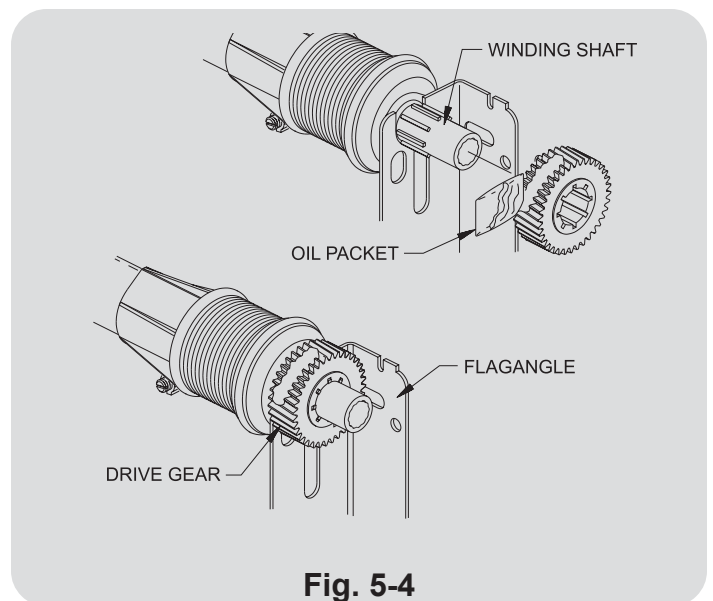
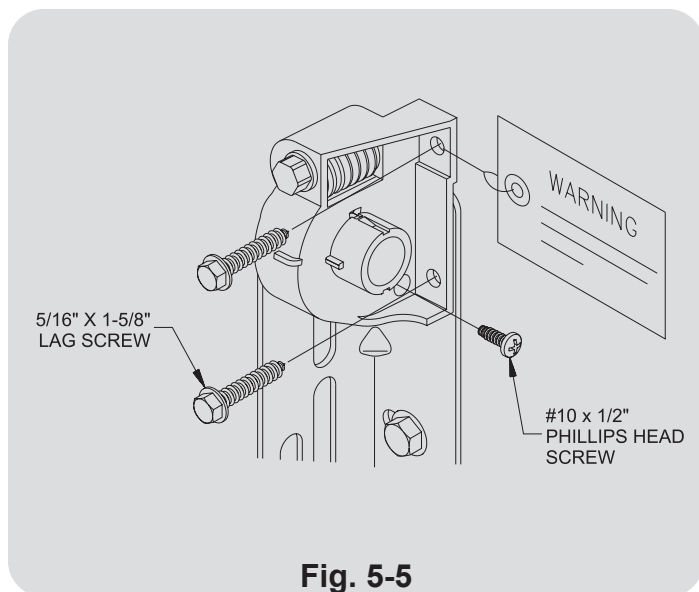

Fig. 5-4
Fig. 5-5
Apply lubricant to the entire circumference of the drive gear. Align the splines of the drive gear with the right hand winding shaft and press the gear on until seated against the flagangle (Fig 5-4). Slide the right hand end bracket over the drive gear and fasten to the flagangle using a #10 x 1/2" phillips head screw. Attach the end bracket to the jamb using (2) 5/16" x 1-5/8" lag screws (Fig. 5-5). Repeat for the left hand side.